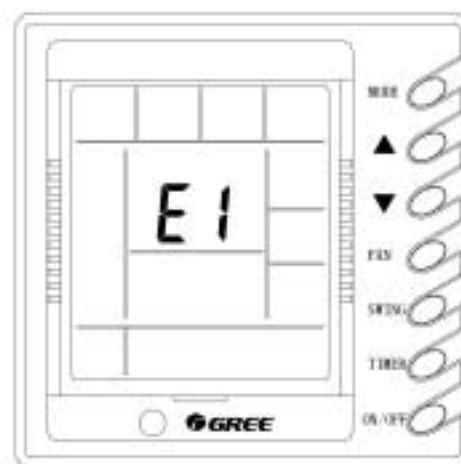

Fig9
8) Malfunction display (Fig.9)
- ❖ When the malfunction happened during the operation, the environment temperature display area will show the error code. As shown in Fig. 9 it shows the compressor high pressure protection.